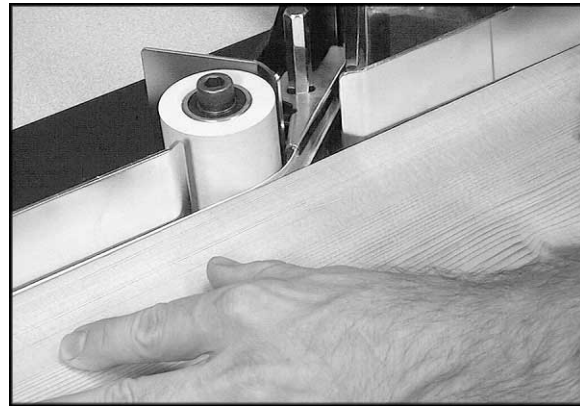

Figure 13
11. As the workpiece is advanced (Figure 13), the leading edge of the workpiece may be rested against the outfeed fence as well as the pinch roller. **Always maintain pressure on the pinch roller** while you are edge banding.